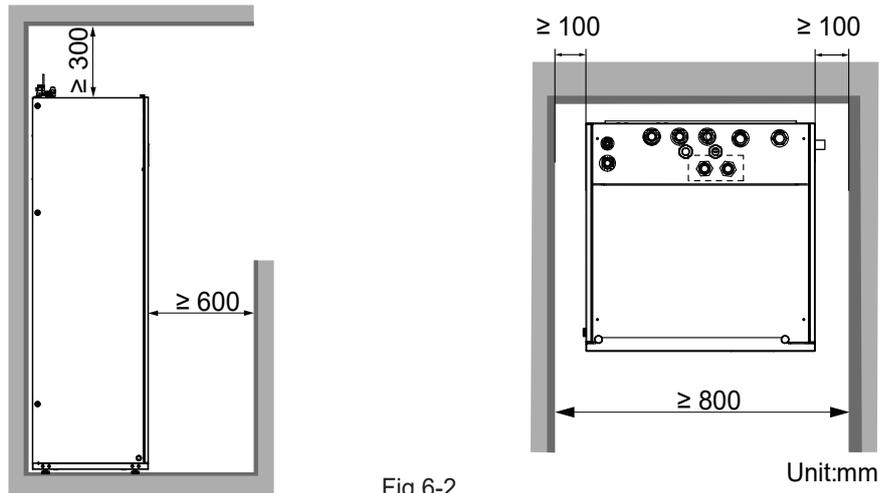

Fig.6-2
- The space around the unit is adequate for serving(Refer to Fig.6-2).